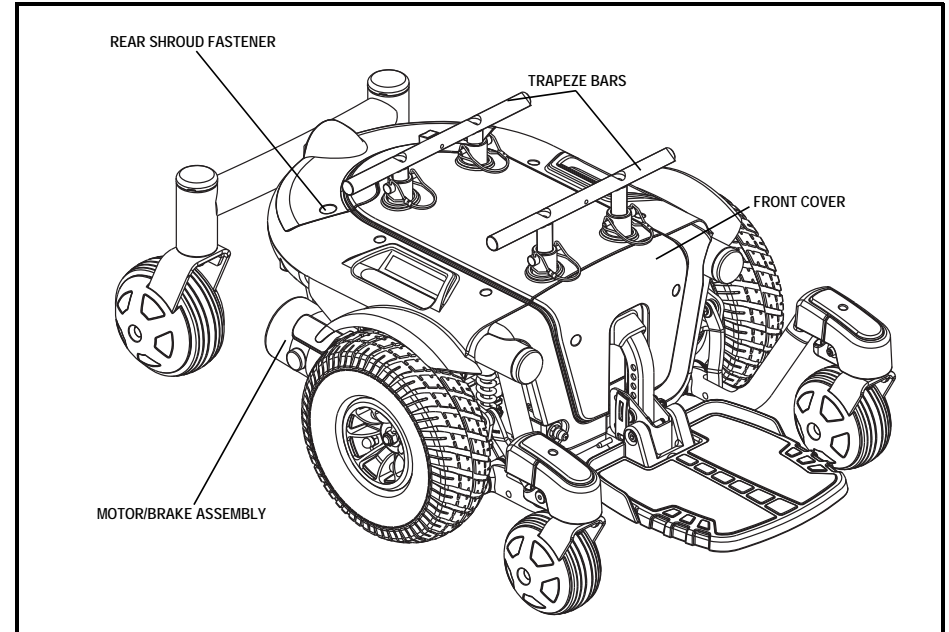

Figure 6. The Quantum 610 Series Power Base
5. Loosen the rear shroud fasteners and remove the rear shroud. **See figure 6.**
7. Reinstall the rear shroud and tighten the rear shroud fasteners. **See figure 6.**
2. Loosen the rear shroud fasteners and remove the rear shroud. **See figure 6.**